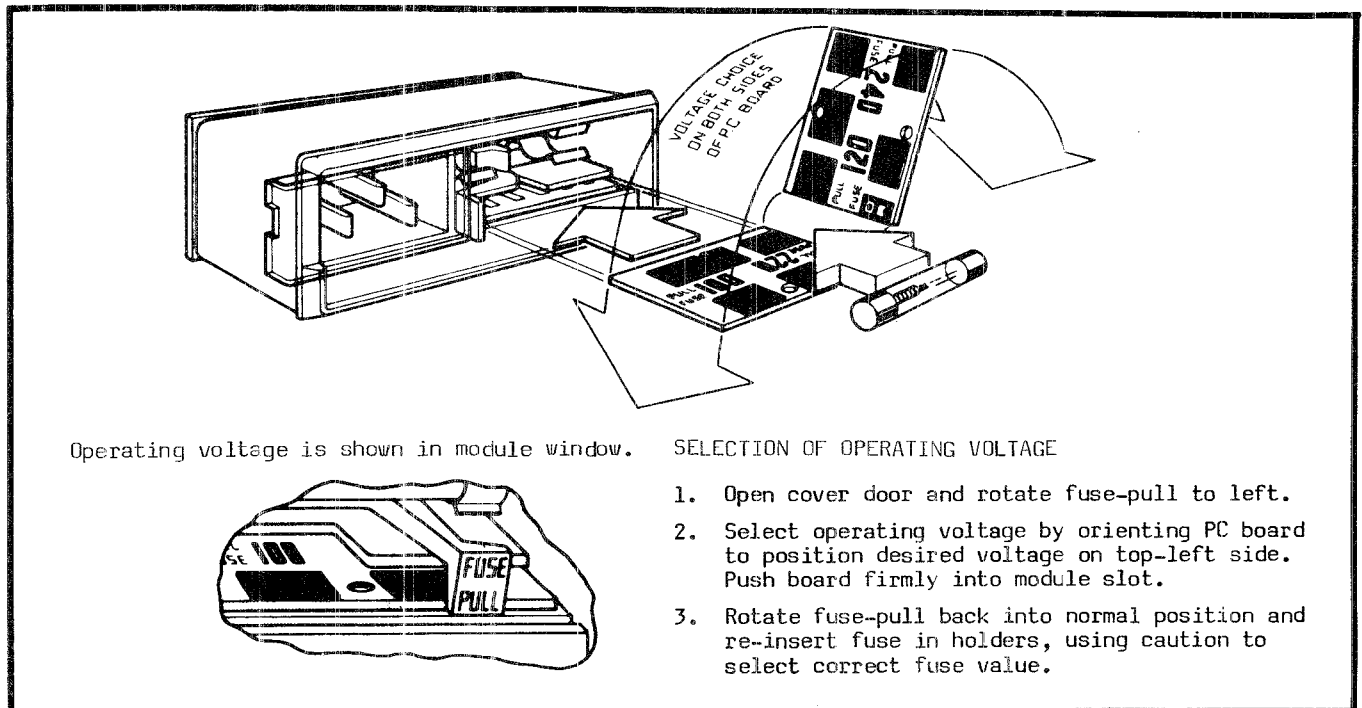

Figure 2-1. Voltage Selection and Fused Receptacle
e. All instruments operate over the power frequency range of 48 to 440 Hz. Always verify that the operating mains voltage is the same as that specified on the rear panel power receptacle switch plug. See Figure 2-1.
3-7. Before connecting ac mains be sure that the Voltage Selector switch on the rear panel is set for the corresponding ac mains voltage. See Figure 2-1.